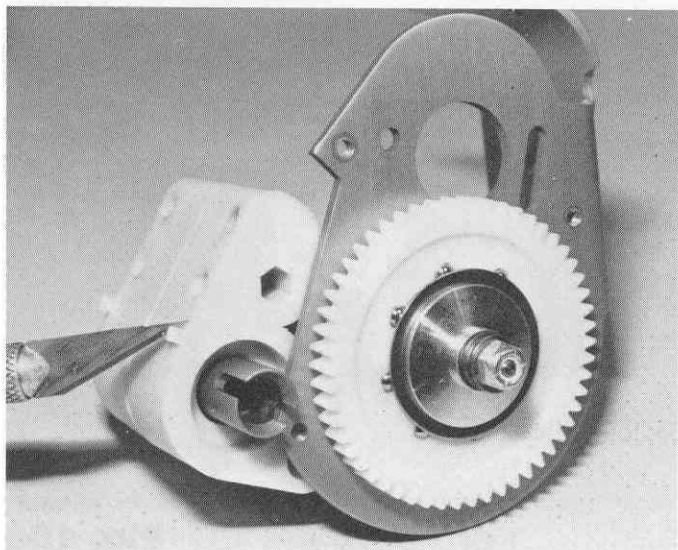

Fig. 94
□ **Fig. 94** On the bottom of the transmission case, as shown, are 2 molding lugs. Cut these off flush with an X-acto knife.